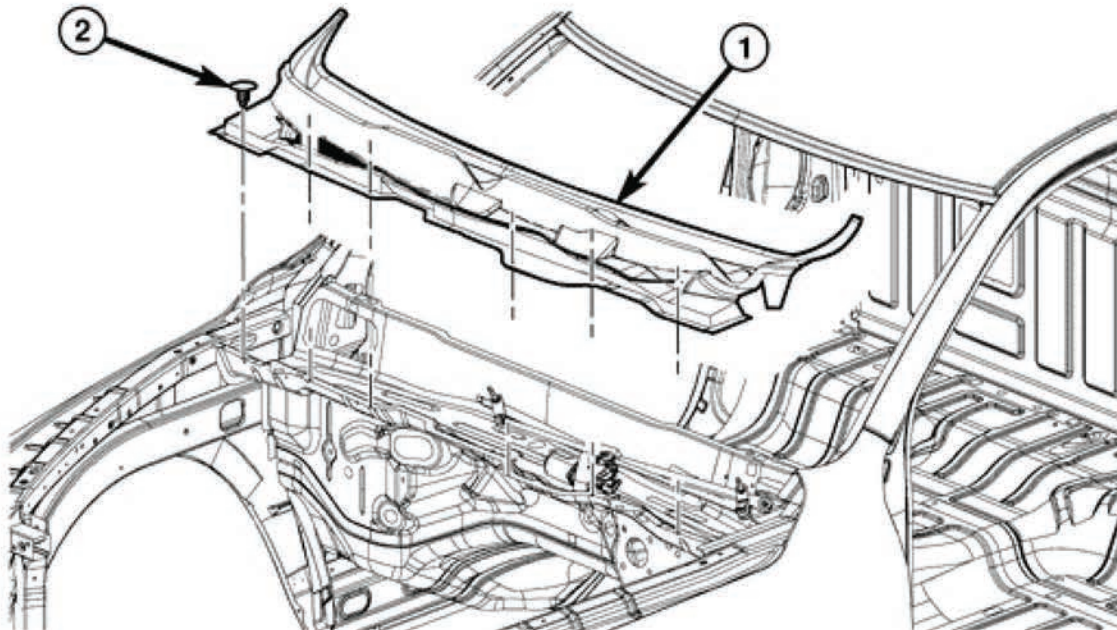

Fig 3.
- f. Remove the 6 plastic retainers as shown in **Fig 3** labeled (2).